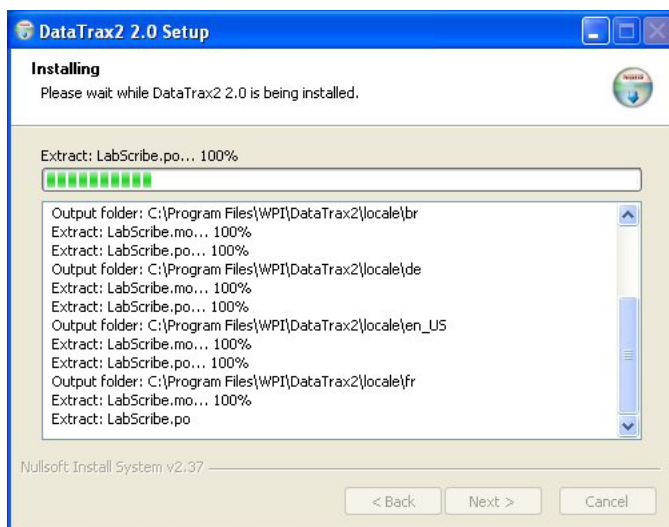

Fig. 23—Install progress
- Accept the default location or click the **Browse** button and select the desired location. Once the location is chosen, click the **Install** button. A window displays briefly showing the progress of the installation (**Fig. 23**).